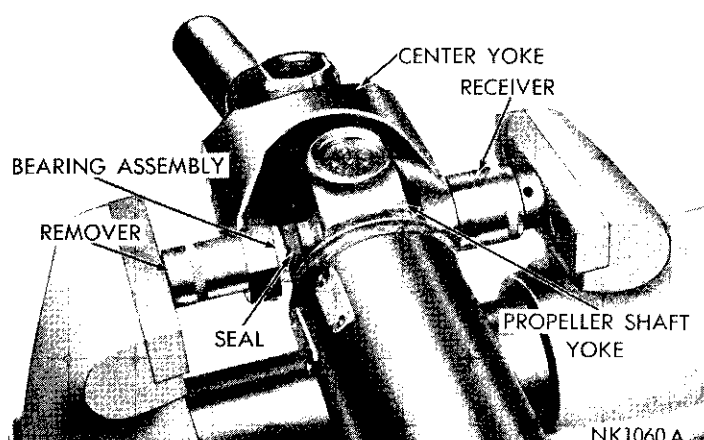

Fig. 14—Pressing Bearing from Center Yoke
(3) Press bearing assemblies from yokes in following manner: Use a short length of round bar stock 3/4 inch in diameter, or a 3/4 inch socket as a remover. As a receiver on the opposite bearing, use a short length of pipe or a socket with an inside diameter of not less than 1-1/16 inch. Clamp the joint with remover and receiver in a vise (Fig. 14) and press one of the rear yoke bearings approximately 3/8 inch out of yoke.